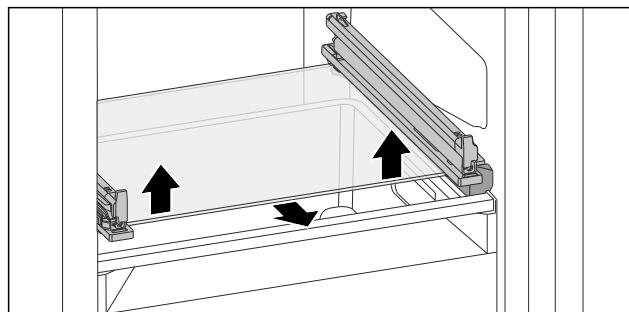

Fig. 104 Tilting drawer glass shelf
- Push glass shelf upwards from below on both sides. (see Fig. 104)